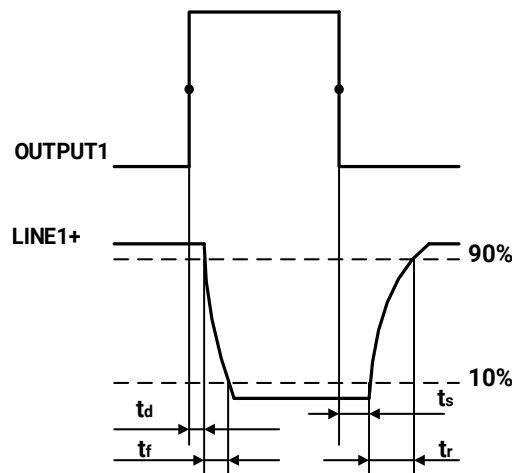

Figure 7-14 Parameter of opto-isolated output circuit
- Rising time delay = $t_r + t_d$: $< 50\mu s$ ($0^\circ C \sim 45^\circ C$) (parameter description is shown in Figure 7-14)
- Falling time delay = $t_s + t_f$: $< 50\mu s$ ($0^\circ C \sim 45^\circ C$) (parameter description is shown in Figure 7-14)